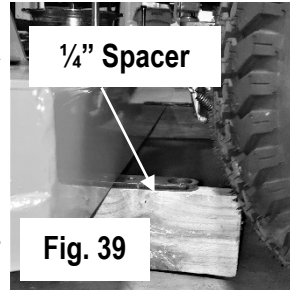

Fig. 39
3. Lower the deck down onto the 2x4's using either the deck lift pedal or the electric actuator, whichever your mower is equipped with. The deck should now be approximately 3 $\frac{1}{2}$ " off the ground. to achieve the proper $\frac{1}{4}$ " pitch down in the front it may be necessary to use some $\frac{1}{4}$ " spacers under the rear of the deck as shown in Fig. 39.